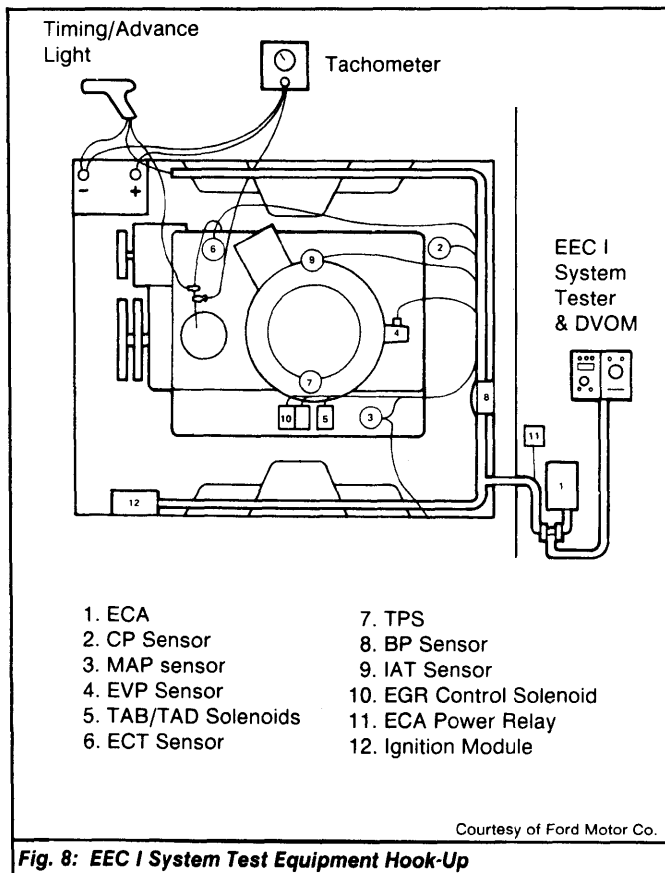

Fig. 8: EEC I System Test Equipment Hook-Up
- 1) Turn ignition off. Disconnect harness from the Electronic Control Assembly (ECA) and connect test equipment. See Fig. 8. Set digital volt/ohmmeter (DVOM) switch to "BATTERY TEST" and verify reading is greater than value stated on face plate. If lower, consult tester operators manual.